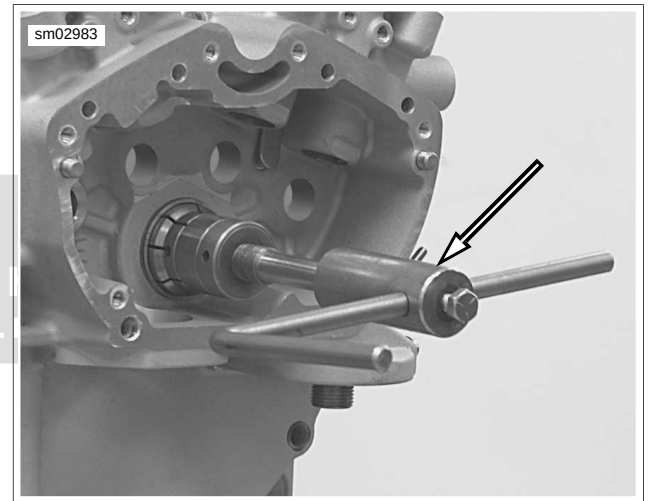

Figure 3-134. Lapping Pinion Shaft Bearing Outer Race with Crankcase Main Bearing Lapping Tool
2. See Figure 3-134. Obtain CRANKCASE MAIN BEARING LAPPING TOOL (Part No. HD-96710-40D). Assemble CRANKCASE MAIN BEARING LAP (Part No. HD-96718-87) to lapping handle. Assemble guide sleeve to sprocket